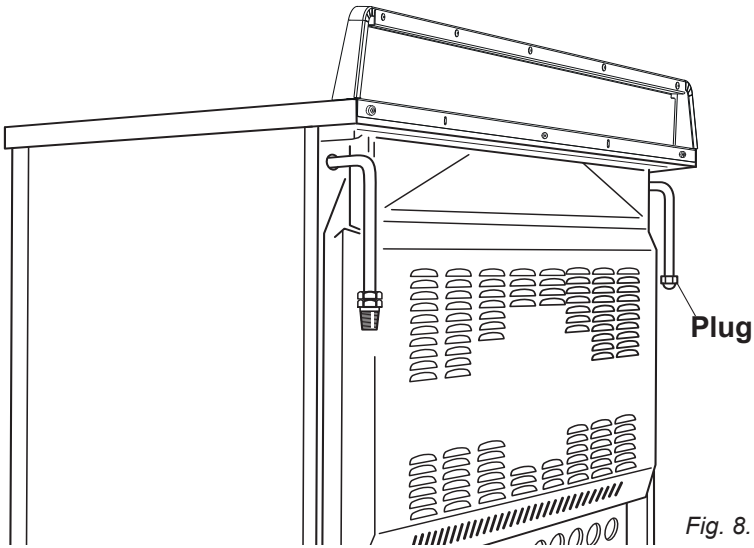

Fig. 8.1a
- The gas supply is connected at the rear of the cooker to the right or left terminal of the gas inlet pipe (fig. 8.1a). The connection pipe must not cross the rear of the appliance.